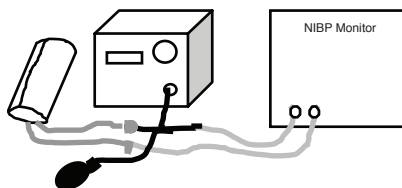

Fig. 2
7. For static calibration, over pressure testing, and leak testing, connect the SimCube simulator and a manual pump bulb in line with the monitor's cuff and hose as shown in Fig. 2. All SimCube models include a manometer for performing static calibration. Some models include an Over Pressure (peak detect) mode for performing over pressure testing and some models include a Leak Test mode for performing leak tests.